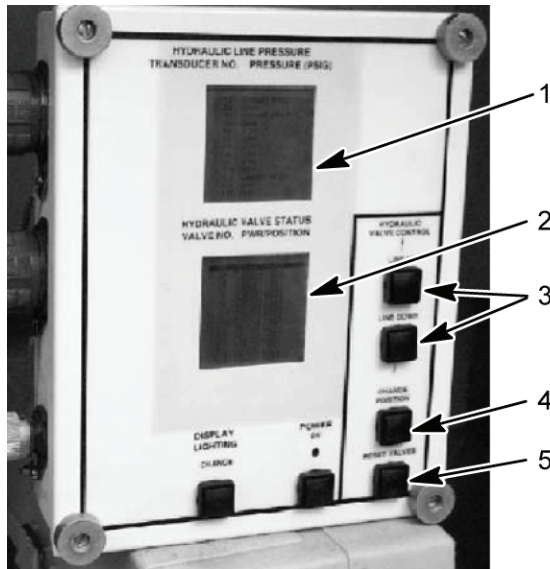

Figure 4. HDC Control Box
- Reset all HDC solenoid valves by selecting the RESET VALVES button (Figure 4, item 5) on the HDC control box.
- Disable ejector by manually closing the ejector inhibit ball valve V23 (Figure 5, item 1) on the DCV bank. Using LINE UP or LINE DOWN button (Figure 4, item 3), select V1 on the HDC display (Figure 4, item 2). Close V1 on the HDC display (Figure 4, item 2), by selecting the CHANGE POSITION button (Figure 4, item 4) on the HDC control box. Select V12 on the HDC display (Figure 4, item 2). Close V12 on the HDC display (Figure 4, item 2), by selecting the CHANGE POSITION button (Figure 4, item 4) on the HDC control box. Select V20 on the HDC display (Figure 4, item 2). Open V20 on the HDC display (Figure 4, item 2), by selecting the CHANGE POSITION button (Figure 4, item 4) on the HDC control box. Select V13 on the HDC display (Figure 4, item 2). Close V13 on the HDC display (Figure 4, item 2) by selecting change position button (Figure 4, item 4) on the HDC control box.
- Start engine and hold EJECTOR CONTROL lever in the FORWARD or BACK position until transducer T-2 hydraulic pressure on the HDC display (Figure 4, item 1) indicates 1,950–2,050 psi (13,445–14,135 kPa). Release EJECTOR CONTROL lever to the NEUTRAL position, allow hydraulic pressure to stabilize for thirty seconds, then time the pressure loss for one minute. If pressure loss is greater than 100 psi (690 kPa) per minute, oil is leaking excessively past the ejector control valve spool.